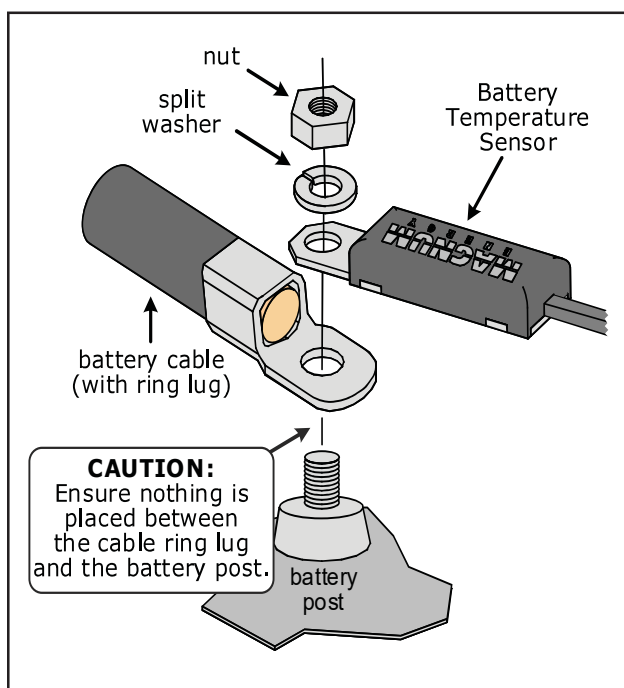

Figure 2-5, Battery Hardware Installation
Refer to Figures 2-5 and 2-6 to connect the DC cables and stack the hardware correctly. Tighten the terminal connections from 10 to 12 lbf-ft (13.6 to 16.3 N-m).
1. Attach the ring terminal end of the Battery Temperature Sensor to the negative battery terminal; see Figure 2-5 for proper connection to the battery terminal.
6. Ensure the DC wire connections (on the batteries, inverter, and DC circuit breaker/fuse lugs) are flush on the surface of the DC terminals, and the hardware (lock washer and nut) used to hold these connections are stacked correctly (Figures 2-5 and 2-6). Verify all DC connections are torqued from 10 to 12 lbf-ft (13.6 to 16.3 N-m).